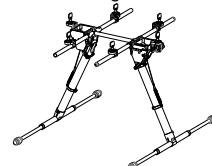

Fig.2
**Lower** : Toggle the switch to this position to lower the Landing Gear (Fig. 2)